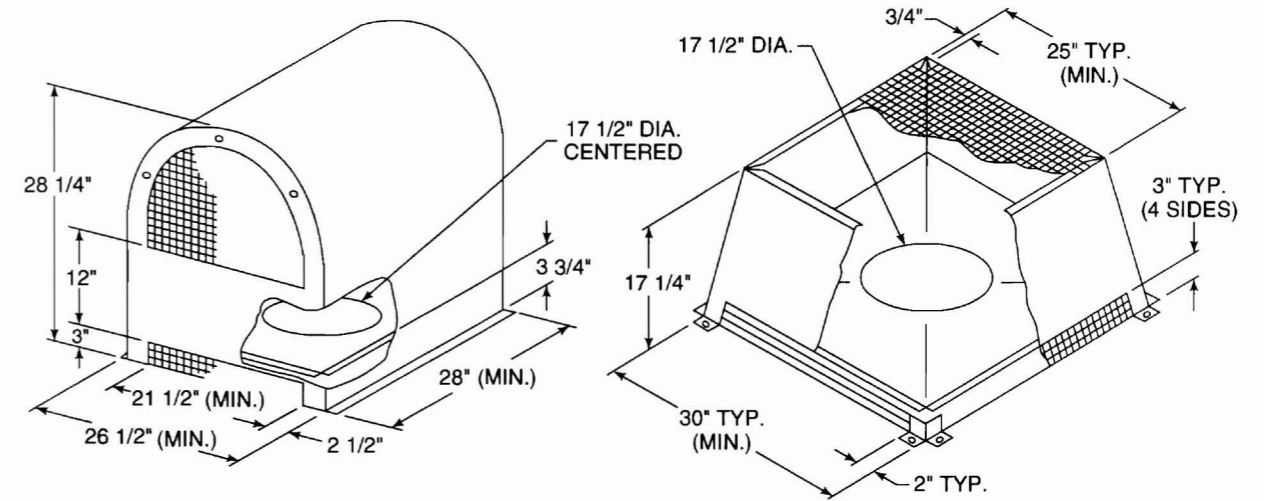

Figure 3
Two different Shroud designs have been tested for HTI fireplace systems using TR342/344 or TR442/444 Terminal Caps. These Shrouds may be field constructed if the dimensional requirements specified in Figure 3 are maintained. These Shrouds must be constructed from a minimum .018" thick aluminized steel or equivalent. The wire mesh is to be .018" thick minimum aluminized steel with a maximum 1/2" mesh opening.
3. Only the rectangular Shroud design, as shown in Figure 3, may be used for multiple units in a chase.